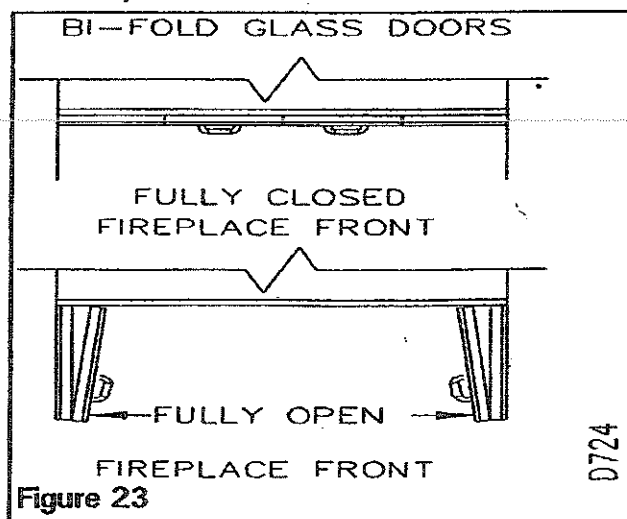

Figure 23
- \* Never operate the glass in a partially opened position (see Figure 23 for caution). Glass doors when left in a partially open position can cause a "chimney affect" and allow hot combustion gas to enter the room.